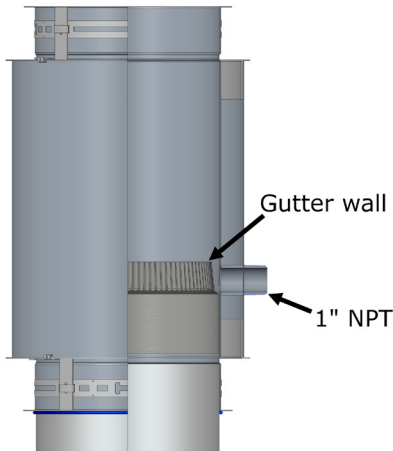

Figure 29- Vertical Drain Length
A Drain Section is used to drain water on vertical installation. It is a special variation of an 18" pipe length with provision to drain rain or condensate from the chimney. The pipe flue is equipped with an annular catch gutter wall and a 1" (25) NPT nipple extending through the casing for attachment of drain piping. See **Figure 29** for details. The drain piping should include a water leg of a height at least equal to the maximum expected operating pressure at the appliance outlet to avoid allowing flue gases to vent through the drain. Drain Length should be installed indoors to prevent freezing.